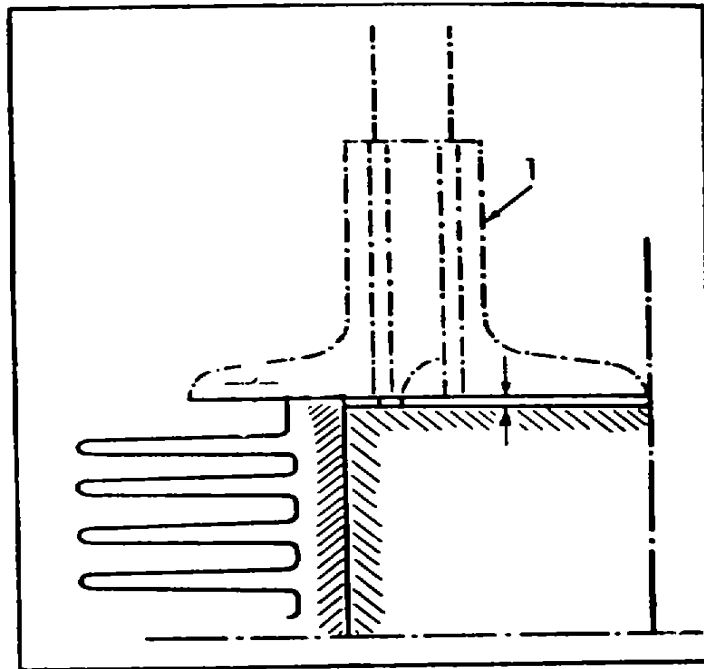

Figure 5-21. Cylinder Head and Piston Bumping Clearance Measurement.
- (1) Inspect cylinder head for cracks or signs of excessive heat.
- (2) Using a straight edge, check cylinder for warpage.
- (3) Inspect cylinder head contact surface for damage.
- (4) Replace a damaged cylinder head.
d. Installation. (Refer to figure 5-21).**CAUTION**